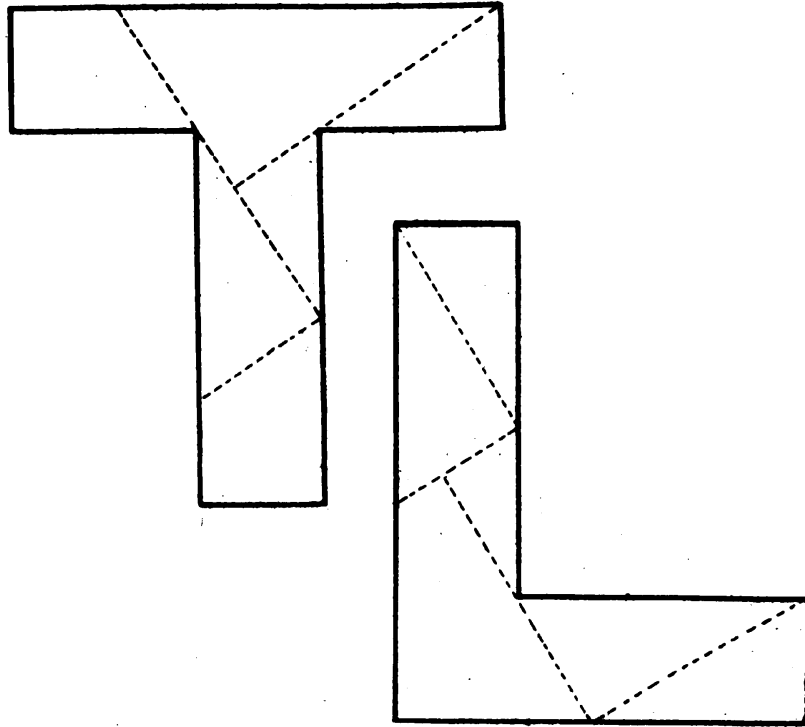

FIG. 56.
*Geometrical Puzzle* shown in Fig. 56. Each of these consists of a capital letter divided up by one or two straight lines into right-angled triangles and other geometrical shapes. While very simple to look at when completed, these little puzzles are by no means easy to solve when the odd pieces are given